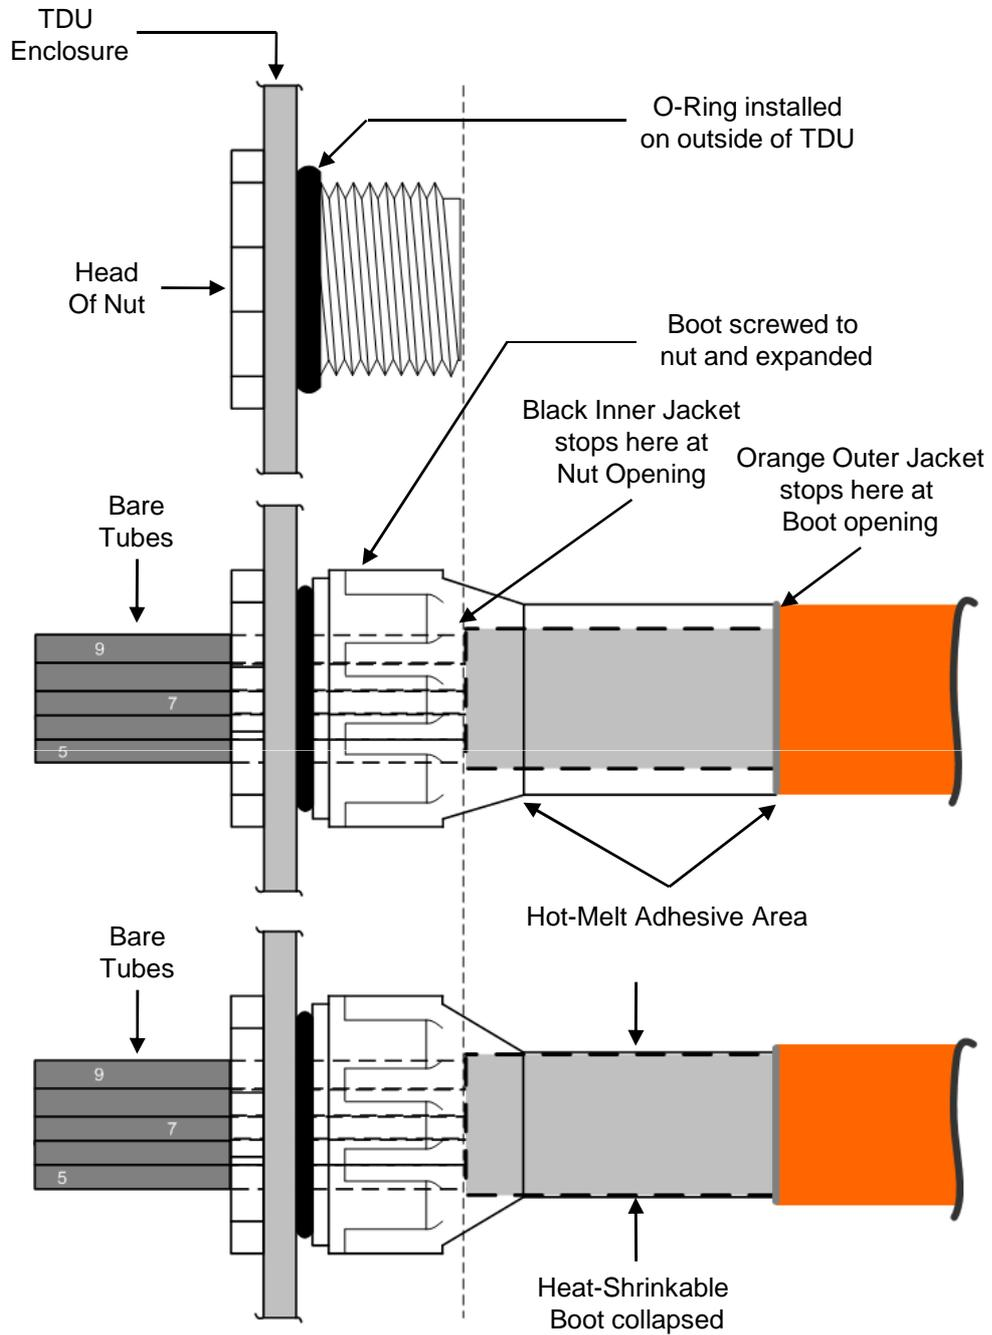

Figure 7
9.9 Insert tubes / tube cable through CES until the orange outer jacket contacts the end of the boot. *Do not try to force orange outer jacket into or through the boot. Stop when contact is made. See Fig. 7.*